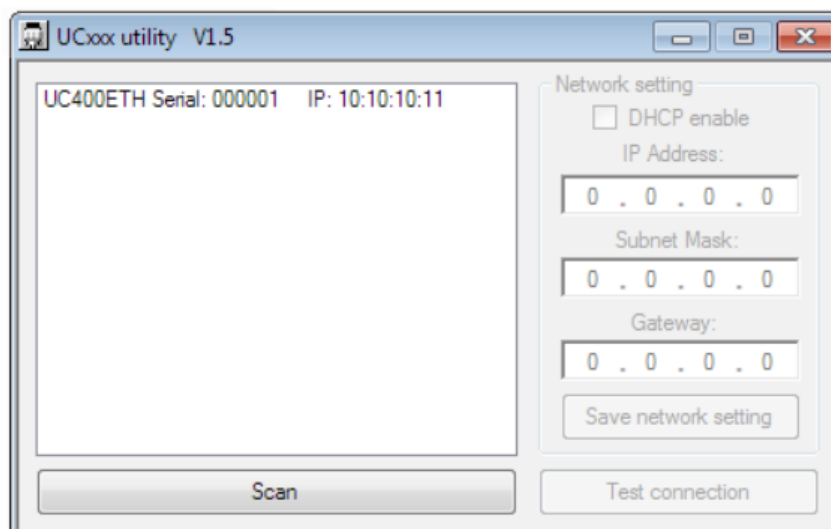

Figure 20: Utility scanner showing that the module is connecting okay with the computer
- 9- Once configured you can run the utility scanner to check the module is connecting to the machine okay. Refer to Figure 20